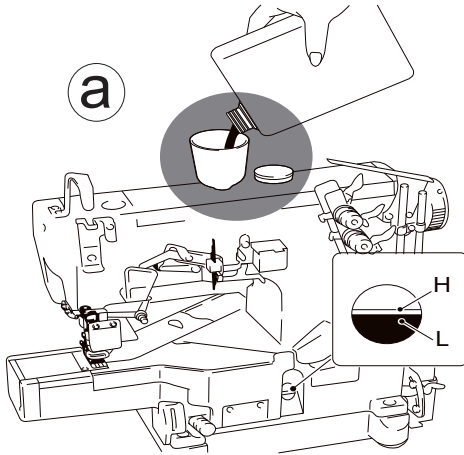

Figure 5
After filling the oil pan ,the oil surface should lie between (H) and (L) lines. Add oil when the oil surface reaches or goes below (L). as shown on figure 5